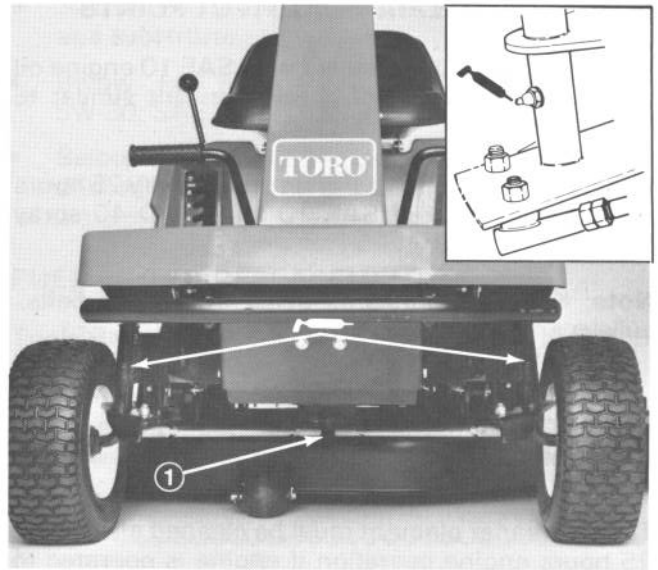

Figure 15
1. Wipe grease fittings on spindles and wheels (Fig. 15, 16) with a clean rag. If there is paint on front of fittings, scrape it off.
2. Lubricate both axle spindles and front and back wheels w/No. 2 general purpose grease (Fig. 15). Continue to pump grease until it oozes out the spindle. Wipe up any excess grease.
1. Wipe grease fitting on spindle with a clean rag. If there is paint on fitting, scrape it off. (Fig. 15, Inset).